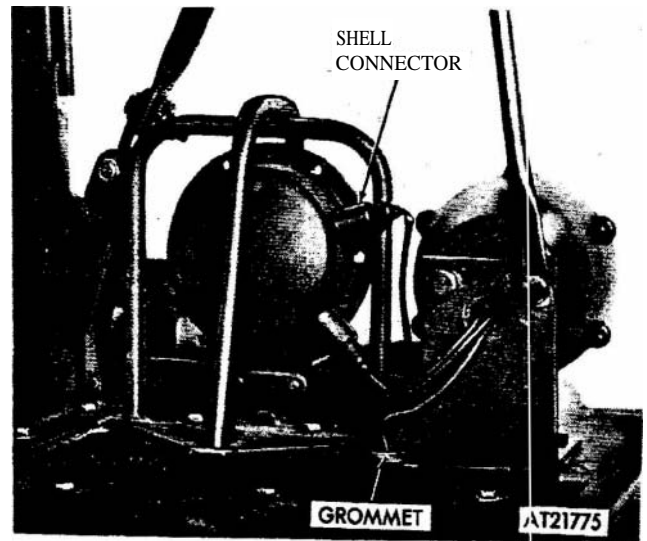

Figure 2-123. Horn electrical connections.
(1) Disconnect electrical connectors from horn (fig 2-123).